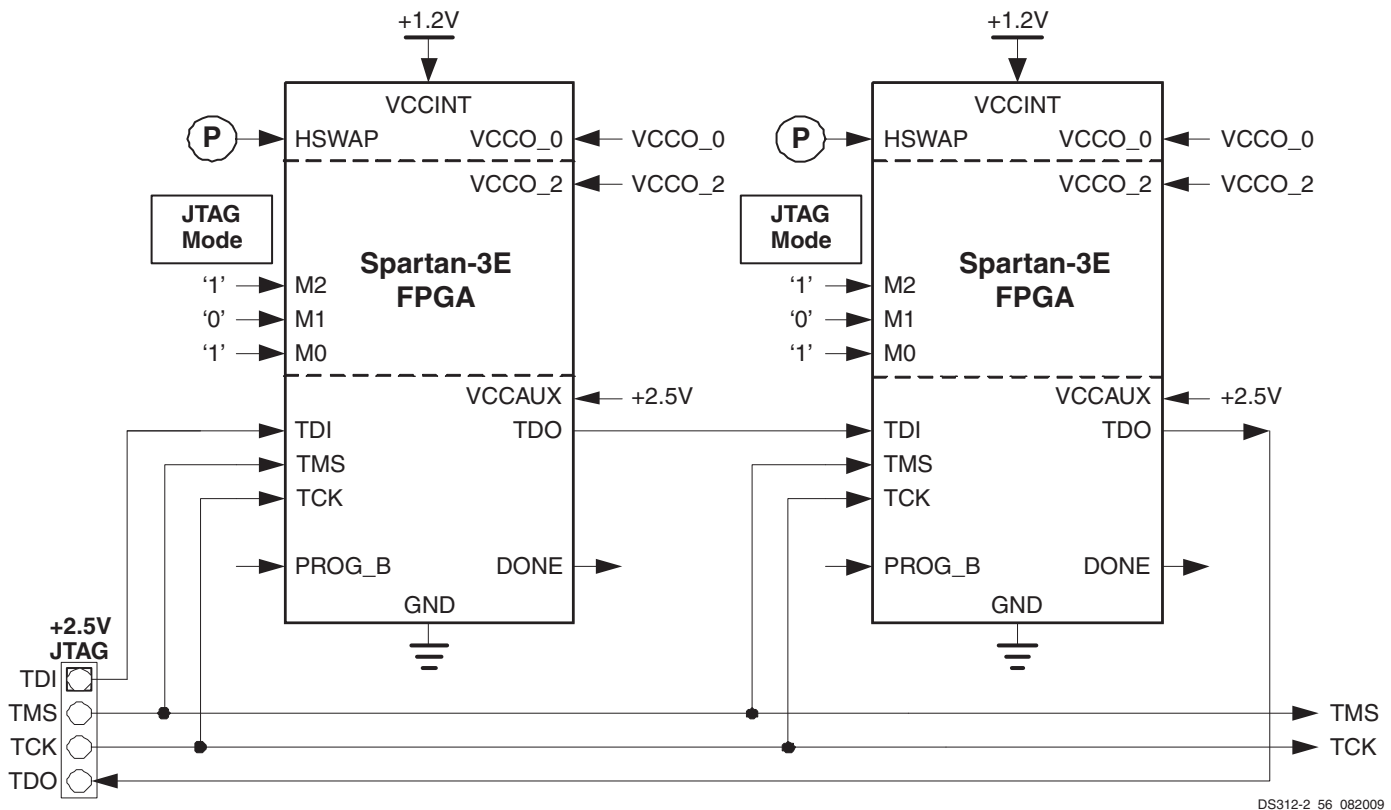

**Figure 65: JTAG Configuration Mode**
**Figure 65** illustrates a JTAG-only configuration interface. The JTAG interface is easily cascaded to any number of FPGAs by connecting the TDO output of one device to the TDI input of the next device in the chain. The TDO output of the last device in the chain loops back to the port connector.